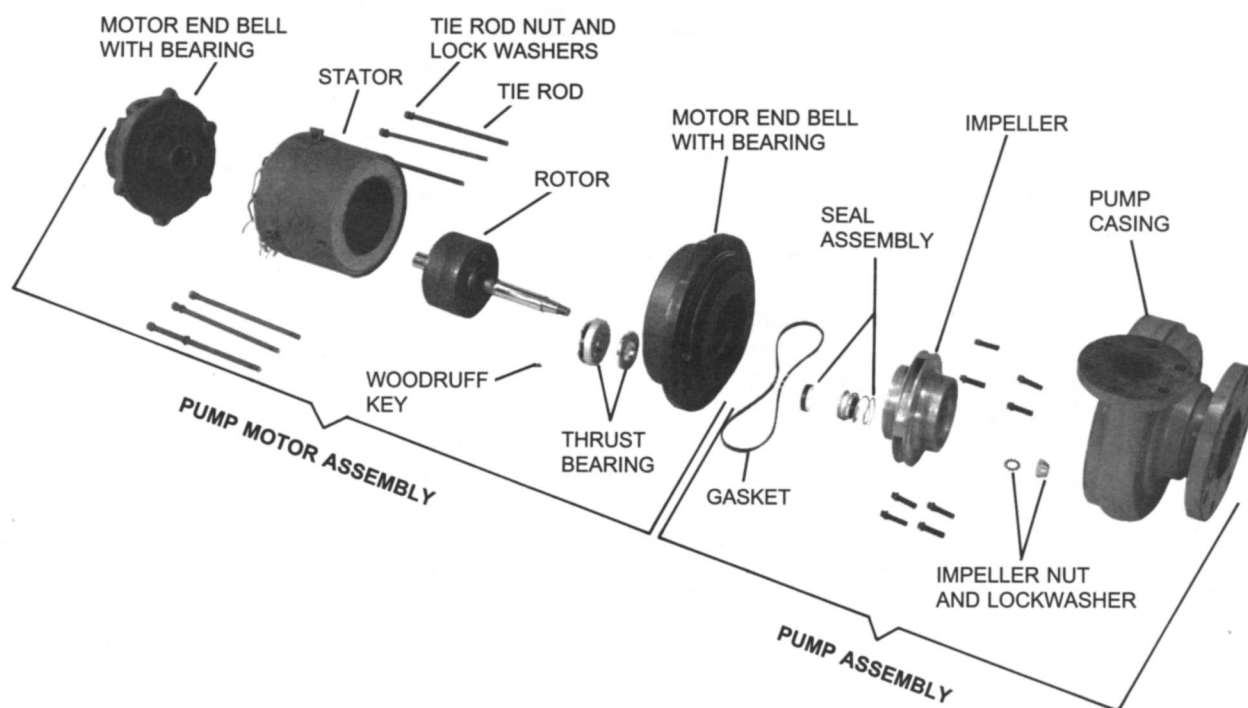

FIG. 3 – EXPLODED VIEW OF HERMETIC MOTOR AND PUMP ASSEMBLY
1. Pump Seals – The pump seals are John Crane, Type 2 Single Mechanical Seals as shown in Figures 3, 4 and 5. It is recommended that seals on both solution and refrigerant pumps be replaced whenever leakage is evident. To replace a seal, follow the procedure outlined below.